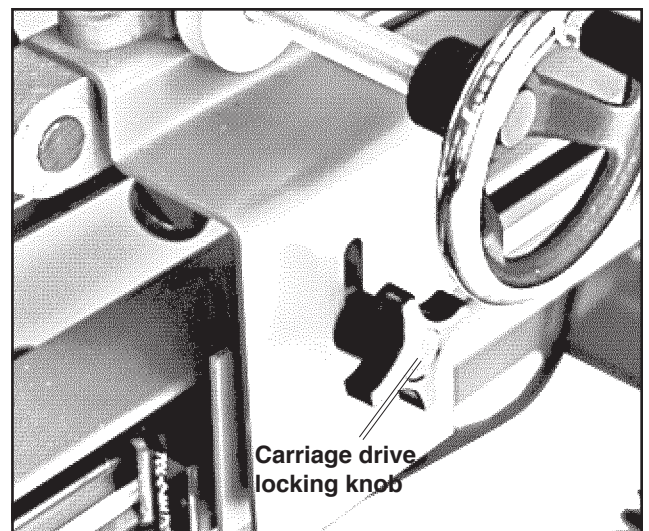

Figure 2.4 Carriage drive engagement
2.1.5 To disengage the grinding head turn the locking knob, slide it up then relock it (see Figure 2.4). Gently roll the grinding head off the packing material.